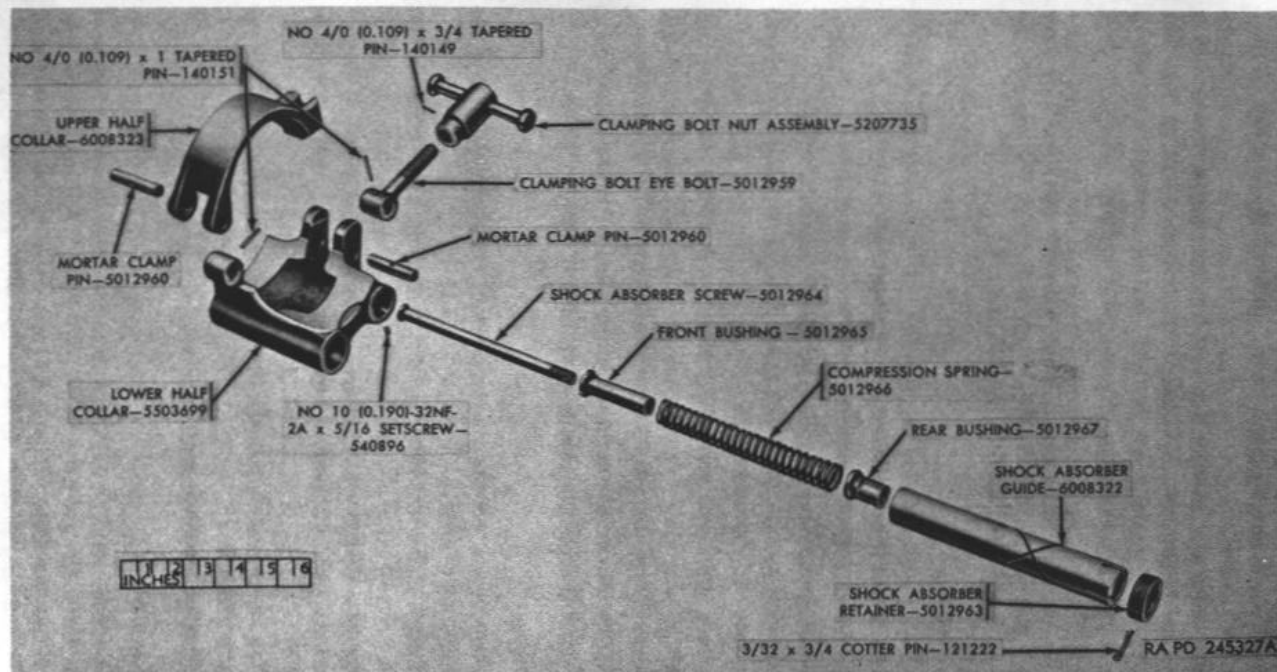

Figure 40. Shock absorbers and mortar clamp group-exploded view.
c. Remove cotter pin from bottom of shock absorber screw and back out the screw (fig. 40). Slide out shock absorber guide with front bushing, shock absorber spring, and rear bushing from lower half collar (fig. 40). Remove setscrew and unscrew shock absorber retainer from lower half collar (fig. 40) (mark to facilitate assembly).
e. To disassemble mortar clamp, proceed as outlined in (1) through (3) below.
- (1) Drive out tapered pin and remove mortar clamp pin to separate upper half collar from lower half collar (fig. 40).
- (2) Drive out tapered pin and remove mortar clamp pin to separate clamping bolt eye bolt and lower half collar (fig. 40).
- (3) Unscrew clamping bolt nut assembly until holes in body aline with tapered pin in eye bolt, drive out pin, and unscrew clamping bolt eye bolt (fig. 40).
a. Assemble upper half collar to lower half collar by means of mortar clamp pin and drive in No. 4/0 (0.109) x 1 tapered pin (fig.40). Screw clamping bolt eye bolt into clamping bolt nut assembly until holes aline and drive in No. 4/0 (0.109) x 8/4 tapered pin (fig.82)
40) Secure eyebolt to lower half collar by means of mortar clamp pin and drive in No. 4/0 (0.109) x 1 tapered pin (fig. 40).
b. Screw shock absorber retainer into pocket in lower half collar and secure with No. 10 (0.190) 32NF-2A x 5/16 setscrew (fig. 40). Slide shock absorber guide into pocket of lower half collar (fig. 40).
c. Insert into the shock absorber guide the rear bushing (small end leading), compression spring, front bushing (small end leading), and shock absorber screw (threaded end leading). Screw in screw and secure with 3/32 x 3/4 cotter pin (fig. 40).